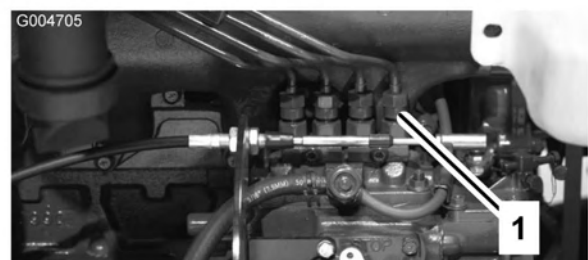

Figure 51
1. Loosen the pipe connection to the Number 1 injector nozzle and holder assembly at the injection pump (Figure 51).